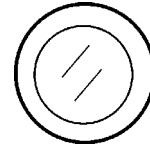

Figure 40. Pre-Heat Button
1. In cold weather conditions, press and hold the **pre-heat button** (Figure 40) for at least 50 seconds to warm the engine glow plugs.